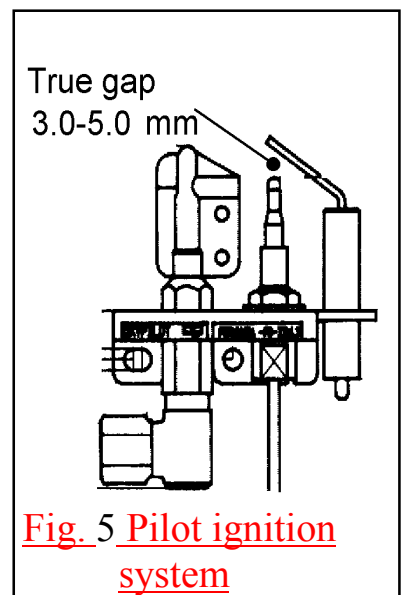

Fig. 5 Pilot ignition system
- b.* Check spark gap between electrode wire and thermocouple tip (see figure 5).